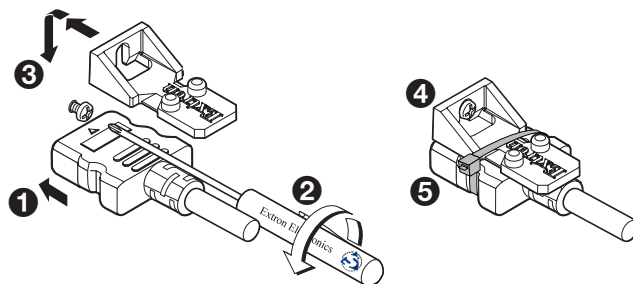

Figure 4. LockIt Lacing Bracket Diagram
1. Plug the HDMI cable into the rear panel connection (see figure 4, **1**).